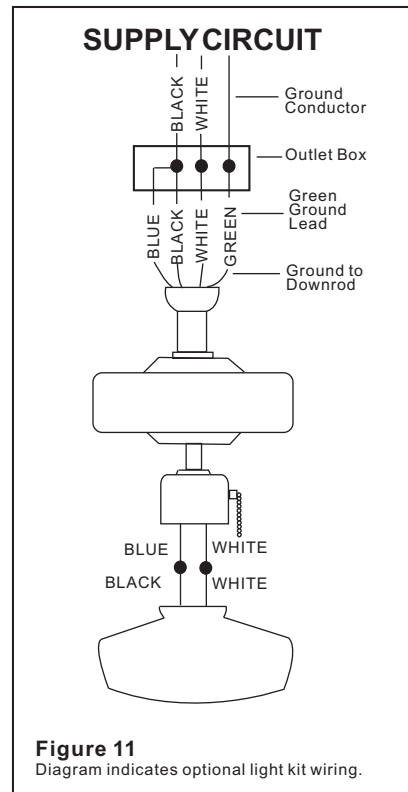

Figure 11
Step 1. Connect the fan supply (black) wire and light supply (blue) wire to the black household supply wire. (Figure 11)
Step 2. Connect the neutral fan (white) wire to the white neutral household wire. (Figure 11)
Step 3. Connect the fan ground wire (green) to the household ground wire. (Figure 11)